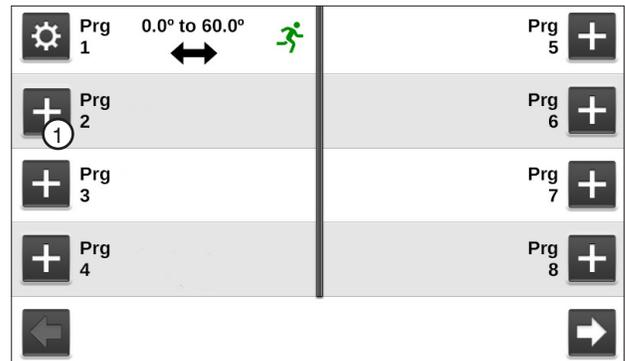

Figure 149-1 1. Program 2 New Program
1. Push **Menu**, **Programs** and **Sector Programs** to view the Sector Programs screen. Refer to Figure 149-1.